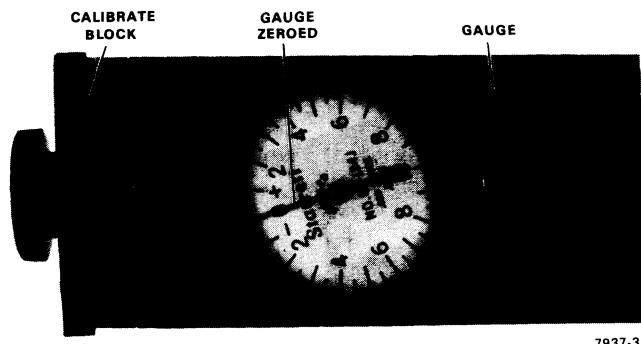

Figure 7-33 Calibrate Alignment Gauge and Block
3. Calibrate the alignment gauge by setting the dial to zero with the calibrate block screwed securely in place (Figure 7-33).